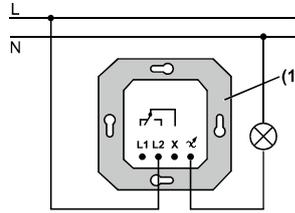

Figure 2: Connection diagram
- Connect the dimmer (1) according to the connection diagram (figure 2).
- Mount the dimmer (1) in the accessory socket.
- Mount the frame (2) and the central plate (3).
- Attach the adjusting knob (4).